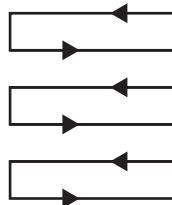

Fig. 15
1. Ensure that the scarifier drum (20) and Grass catcher (17) are correctly assembled.
7. Scarify in slight overlapping rows. The most effective pattern for scarifying lawns is straight lines along one of the sides. This will keep the rows even and ensures that all the lawn is scarified without missing any spots (Fig. 15).